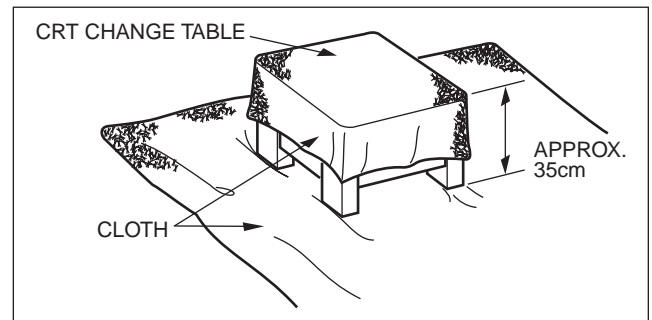

Fig.4
- (1) Putting the CRT change table on soft cloth, the CRT change table should also be covered with such soft cloth (shown in Fig. 4).